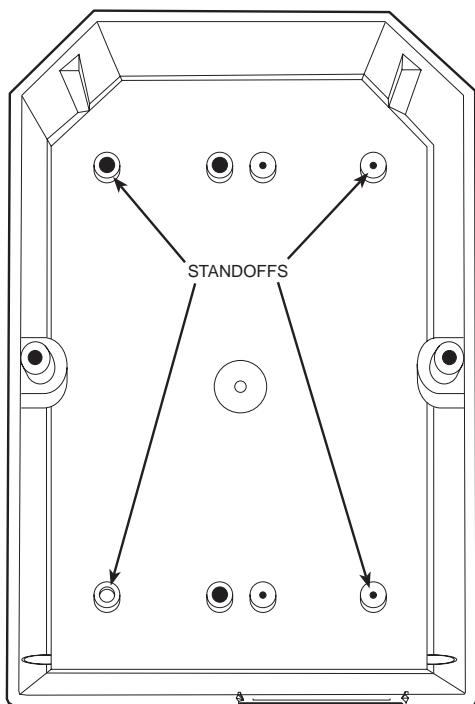

Fig. 4 — Actuator Cover (Inside)
1. Locate the four standoffs inside the actuator cover which have the plastic inserts inside. (The holes will be smaller.) Align the relay pack, with the four screw holes over the standoffs with the smaller holes. See Fig. 4.